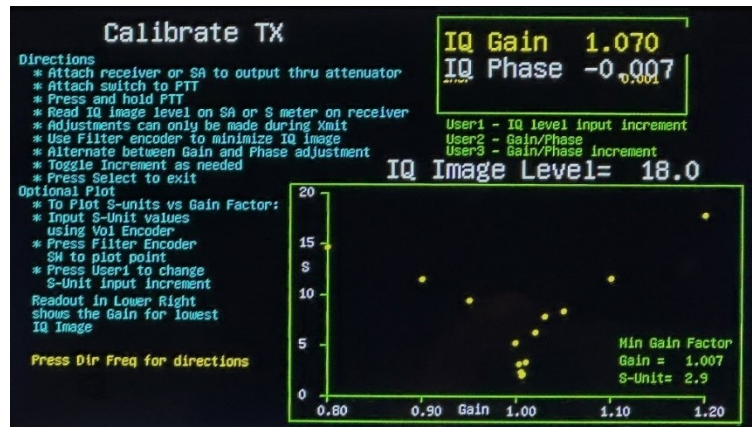

Figure 15 T41 Xmit IQ Gain plot
- A plot of the S-meter readout vs IQ Gain can be obtained by varying the gain with the Filter encoder, reading the S-meter value and using the Vol encoder to adjust the value to the S-meter reading. Press the Filter encoder switch to plot the point. Repeat for various gain values. A clear minimum should be seen on the plot, along with the minimum plot value, as shown in Figure 15.
- Finally Press Dir Freq Button to display the on-screen Directions which are also shown in Figure 15.